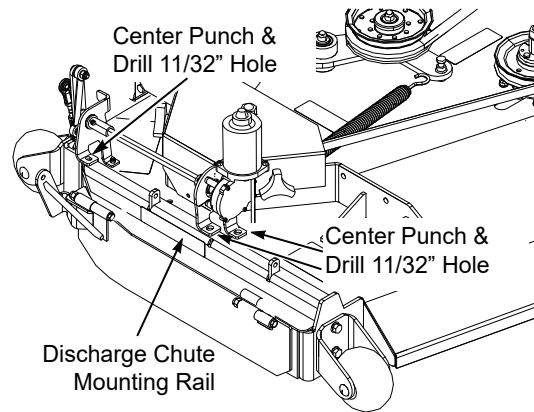

Figure 3-7.
20. Secure the E-OCDC pivot assembly to the discharge chute mounting rail and cutter deck using two (2) 5/16-18 x 1" bolts, two (2) 5/16-18 flanged elastic stop nuts and one (1) 3/8" x 1-1/4" self tapping screw. See Figure 3-7.